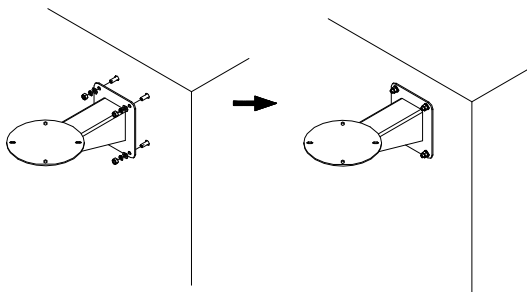

Figure 2-3 Secure the Bracket
- 3) Secure the bracket with four flat gaskets, spring washers, and nuts as shown in Figure 2-3.